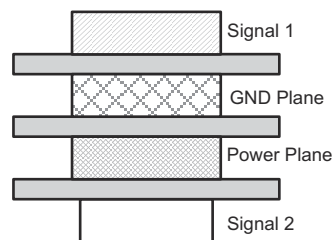

图 11-5. Four-Layer Board Stack-Up
8. Due to high frequencies associated with the USB, a printed circuit board with at least four layers is recommended; two signal layers separated by a ground and power layer as shown in 图 11-5.